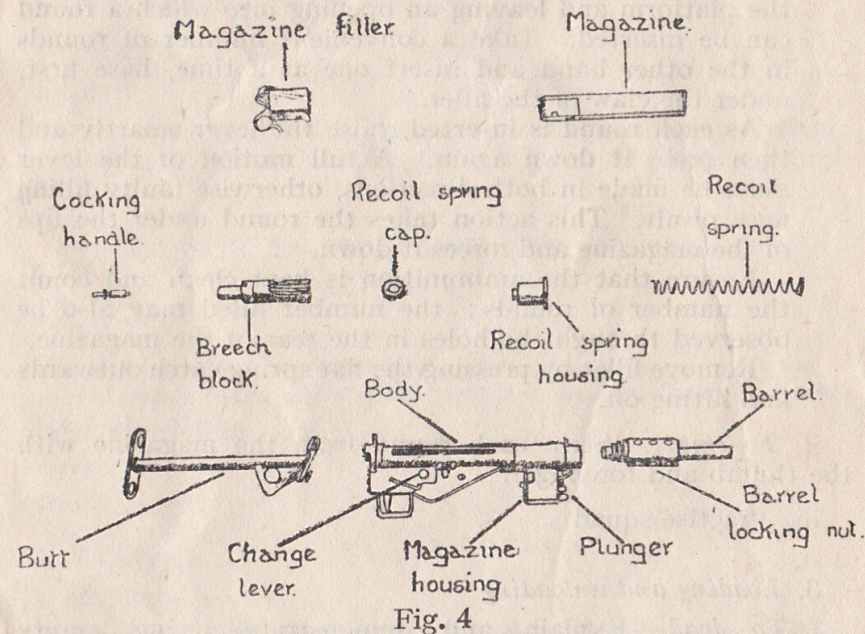

Fig. 4
*All parts will be named as dealt with (see Fig. 4).*
Mention names of main parts as they are stripped (see Fig. 4). Explain and demonstrate :—